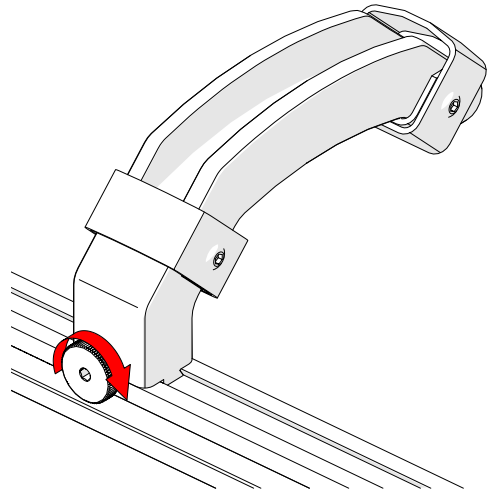

Fig. 15 - Tighten handle knob
2. Tighten handle knob to fasten handle to the frame bar (Fig. 15).